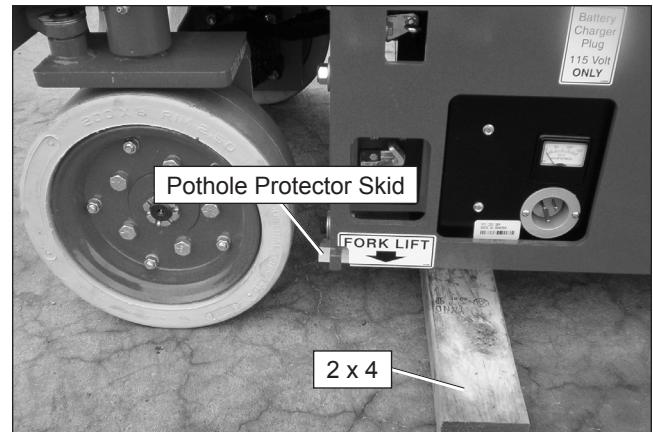

Figure 8.12 – Pothole Protector Skid
6. Place a 1 1/2" (3.8 cm) thick board, such as a 2 x 4, under the skid on the left side (refer to Figure 8.12).